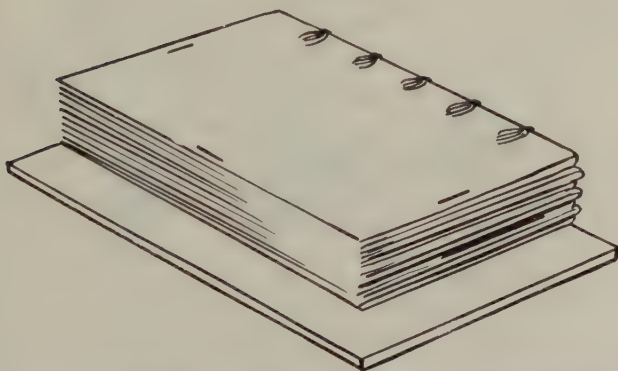

FIG. 192—BOOK ON BOARD SLIDE READY FOR TRIMMING
2. Lay book face downward on a piece of waste board that is, itself, square and a trifle larger than book, *all* around (Fig. 192) with *head* and *back* of book flush with corresponding edges of board.